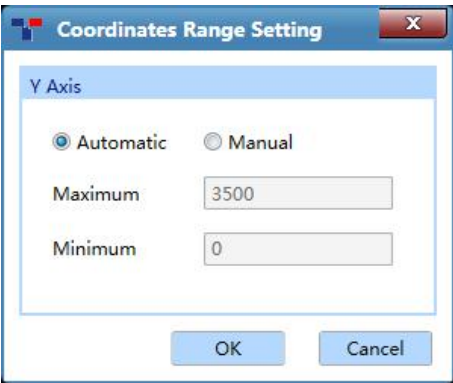

Figure D-7.1a Run Monitoring interface - Coordinate Range Setting
- ▶ <  **Y-axis Coordinate Adjustment** >: users can adjust the Y-axis coordinate of the real-time fluorescence monitoring diagram. Please click <  **Y-axis Coordinate Adjustment** > icon and the coordinate range setting box will pop up automatically, as shown in figure D-7.1a. Users can select **Automatic** or **Manual** option in the coordinate range setting box to set the Y-axis coordinate. If the **Automatic** option is selected, the application software will automatically adjust the Y-axis coordinate according to the detected fluorescence value; if the **Manual** option is selected, users can manually enter or use  and  keys to set the maximum and minimum value of Y-axis coordinate range in the **Maximum** and **Minimum** input box and click < **OK** > to confirm.